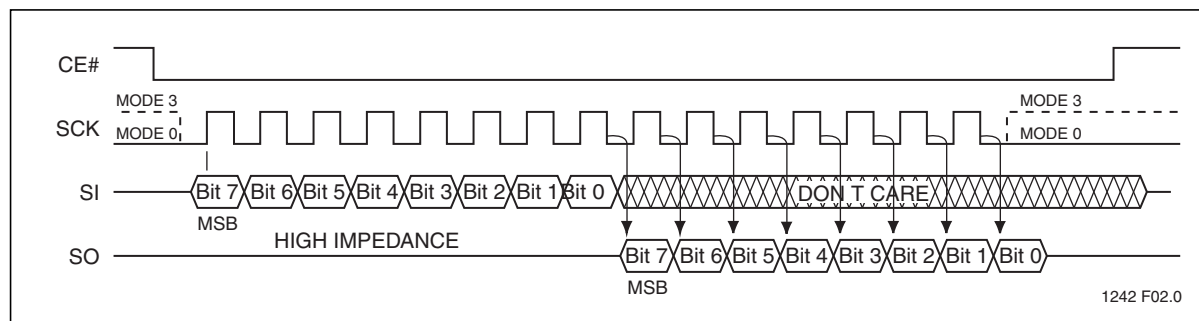

Figure 3: SPI Protocol
The SST25LF020A supports both Mode 0 (0,0) and Mode 3 (1,1) of SPI bus operations. The difference between the two modes, as shown in Figure 3, is the state of the SCK signal when the bus master is in Stand-by mode and no data is being transferred. The SCK signal is low for Mode 0 and SCK signal is high for Mode 3. For both modes, the Serial Data In (SI) is sampled at the rising edge of the SCK clock signal and the Serial Data Output (SO) is driven after the falling edge of the SCK clock signal.